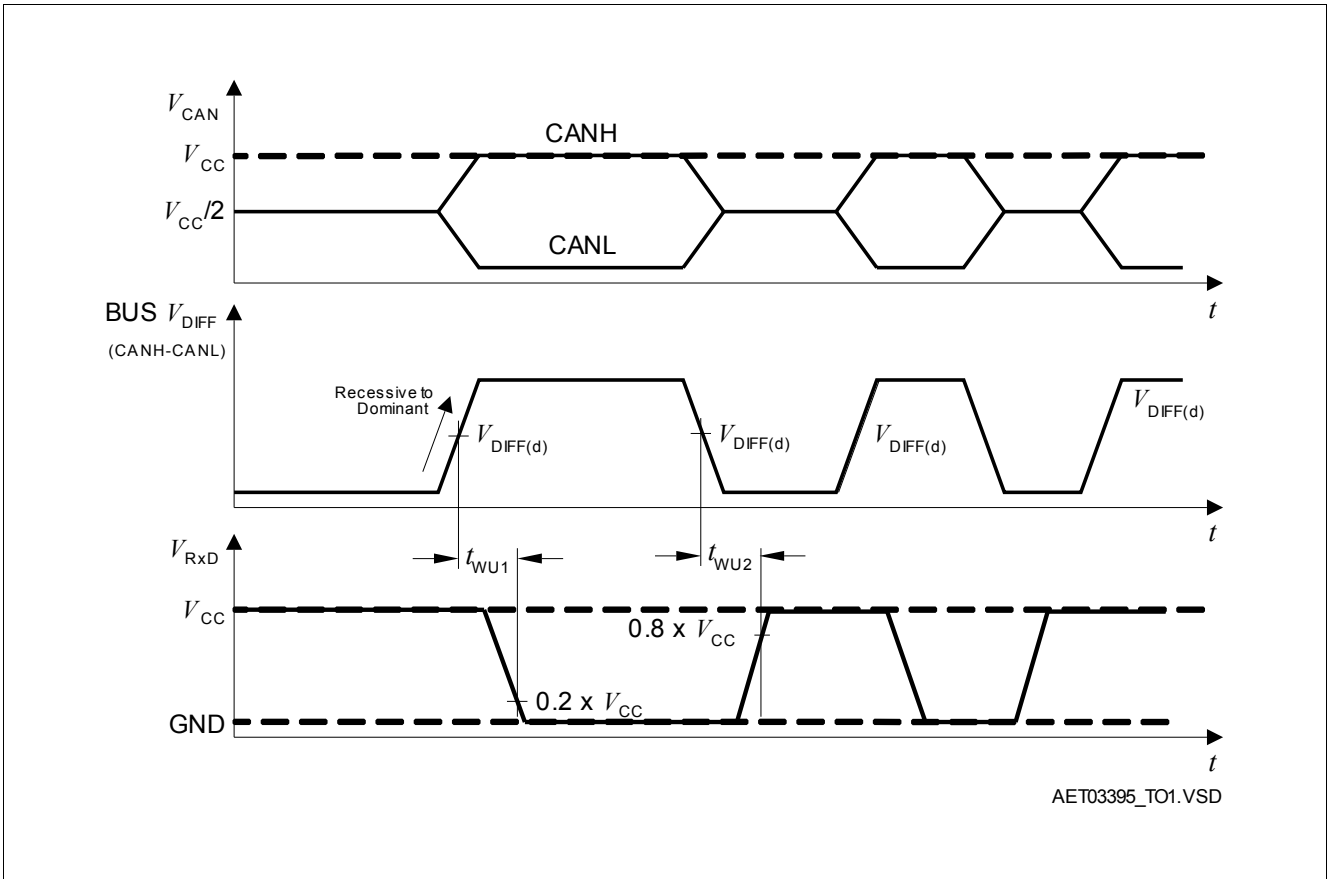

**Figure 5 Go-To Standby Mode during Bus Dominant Condition**
**Figure 5** shows this mechanism in detail. During a bus network failure, the bus might be dominant. Normal communication is not possible until the failure is removed. To reduce the current consumption, it makes sense to switch over to standby mode. This is possible with the IFX1040SJ. If the dominant signal switches back to recessive level, e.g. failure removed, a wake-up via CAN bus (recessive to dominant signal detected) is possible.